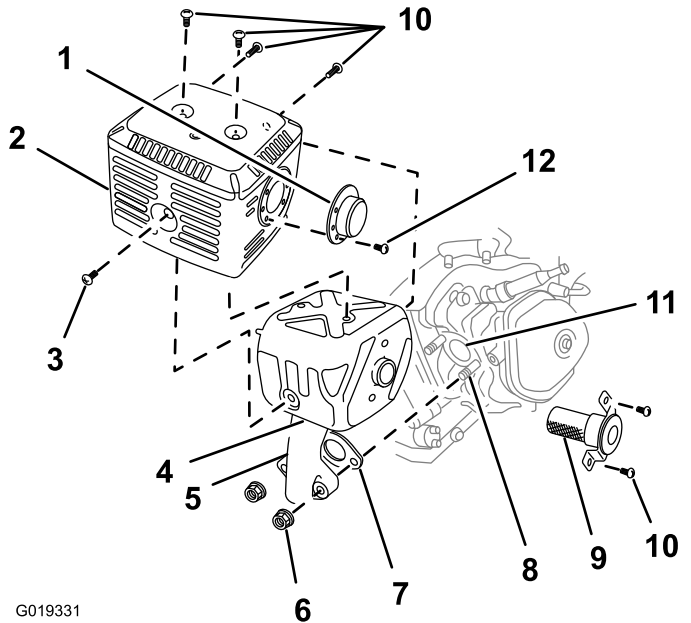

Figure 50
5. Remove the 2 nuts (8 mm) and remove the muffler from the cylinder (Figure 50).
6. Remove the 3 screws (4 mm) from the exhaust deflector, and remove the deflector (Figure 50).
7. Remove the screws (5 mm and 6 mm) from the muffler protector, and remove the muffler protector (Figure 50).
8. Remove the screws (4 mm) from the spark arrester, and remove the spark arrester from the muffler (Figure 50).